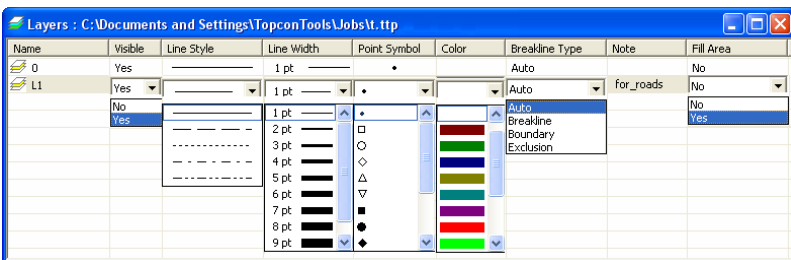

Figure 5-66. Editing Layer in the Layer View
- Highlight and click any (except *Name*) cell in the *Layers* view, select and edit the desired parameters (Figure 5-66 on page 5-50).